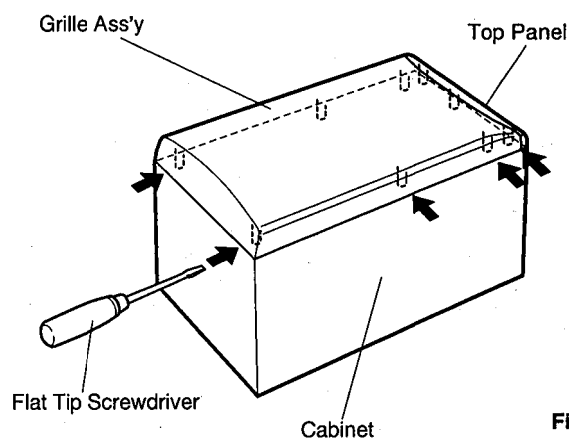

Fig. 3
- a. Insert a flat tip screwdriver or the like as shown below and pry up the Grille Ass'y. (Start from the bottom side.) (Fig. 3)